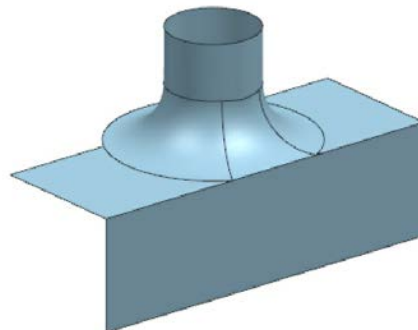

Figure 11-34 Resulting face blend feature
6. Select the **To All** option from the **Trim Blend** drop-down list in the **Trim** rollout and choose the **OK** button. The resulting face blend feature is shown in Figure 11-34.